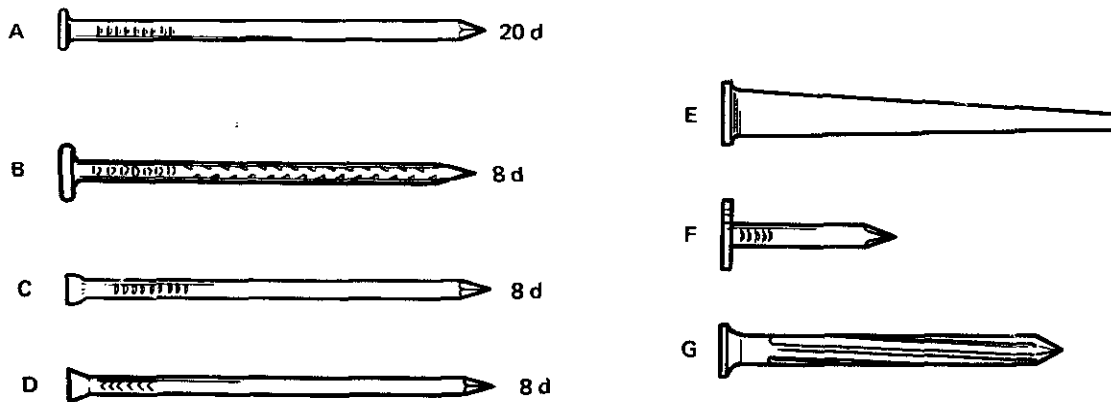

Fig. 11-39
1. Identify each type of nail shown in figure 11-39.
2. Match the nails shown in figure 11-39 with the uses described.